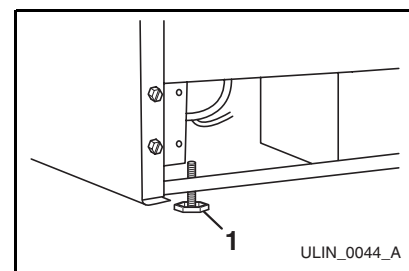

Figure 17
6. If the unit is not level, adjust the feet on the corners of the unit as necessary (**Figure 17**).